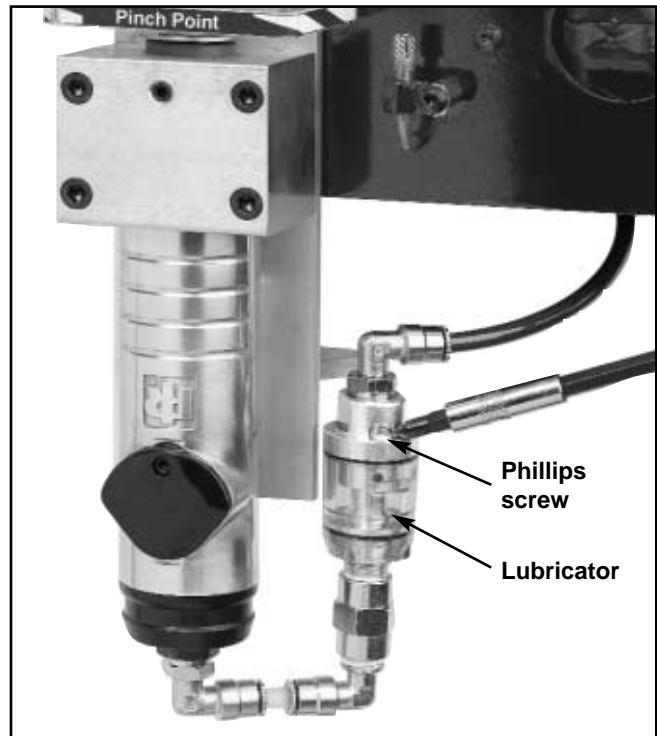

Figure 3 - Lubricator in vertical oil fill position.
2. Swivel lubricator to vertical position. (see Figure 3)